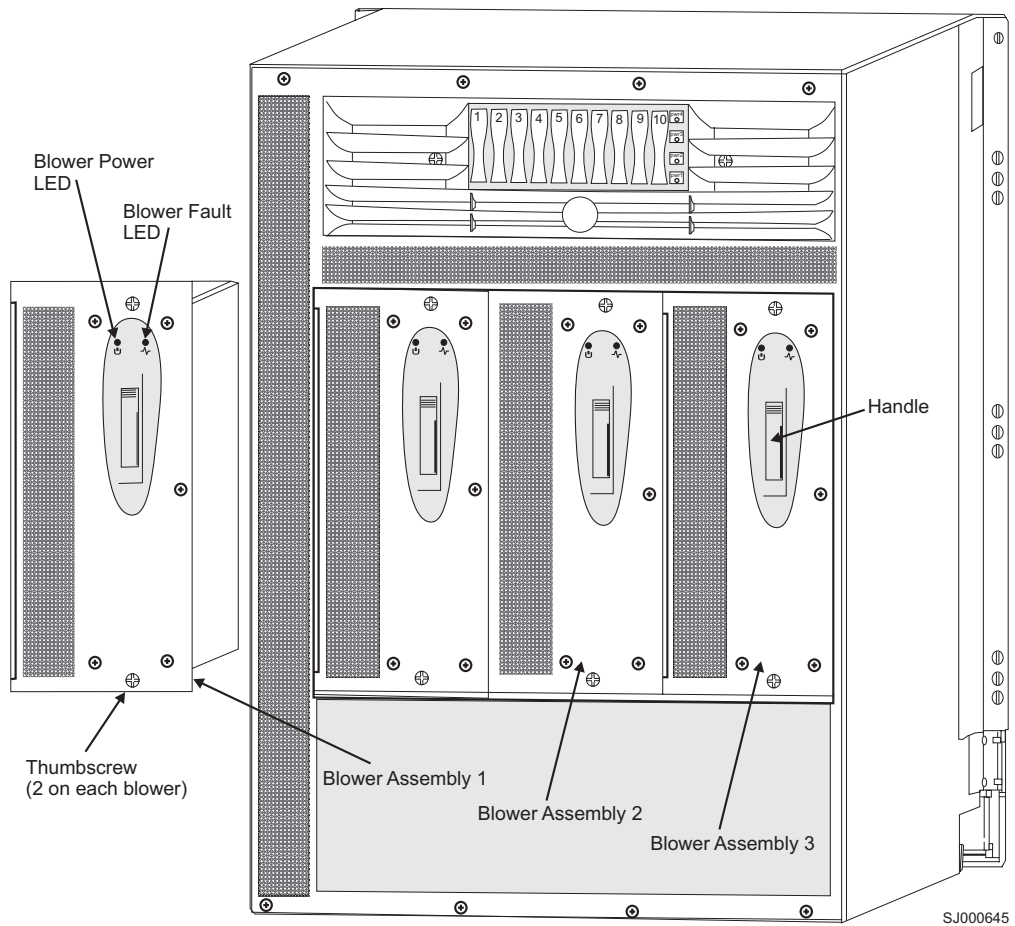

Figure 44. Blower assembly LED locations
1. Before removing the blower assembly, verify the other two assemblies are functioning correctly. The blower assembly power LED should be steady green and the fault LEDs should not be lit. See Figure 44 on page 74 for LED locations. For information about how to check the status of hardware components using the CLI, See the *Brocade Fabric OS Procedures Guide*.